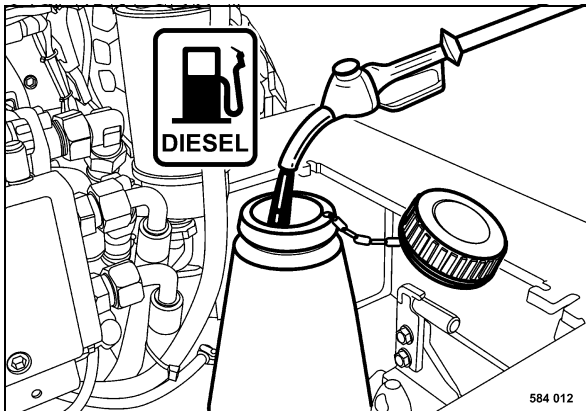

Fig. 124
- Open the fuel tank cover (Fig. 124).